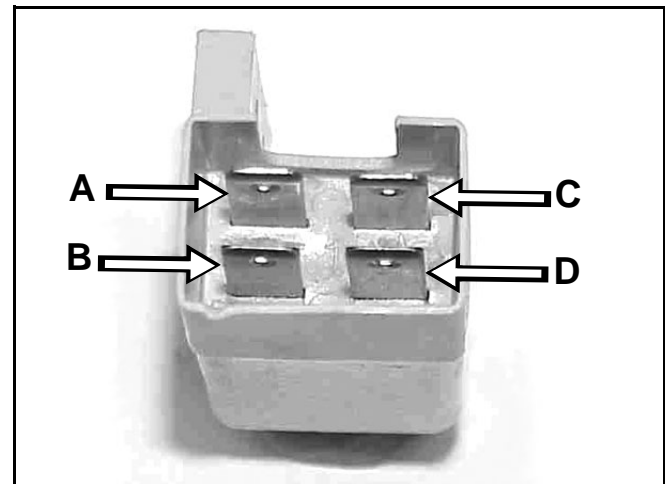

Figure 21 Brake Switch
2. Using a multimeter, follow the procedures listed below (Figure 21):